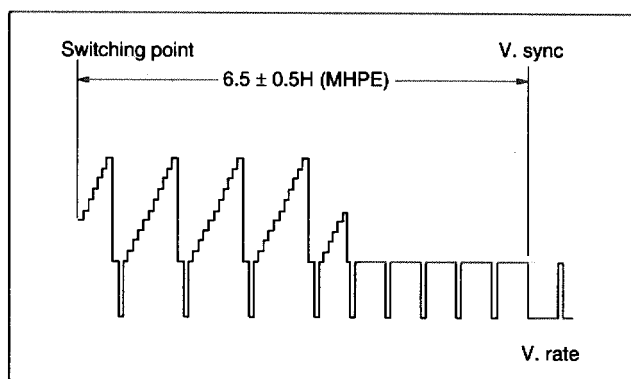

Fig. 3-2-2 PB switching point
- (5) Playback the alignment tape again, confirm the switching point (See Fig. 3-2-2).